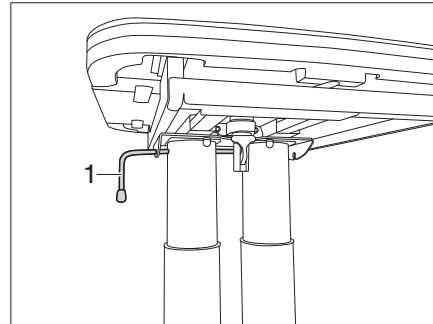

Fig. 103 Lock the table
- Swivel the catch lever (Fig. 103,1) to the left. The lock is open.
- Swivel the catch lever (Fig. 103, 1) to the right. The lift-off table is locked.